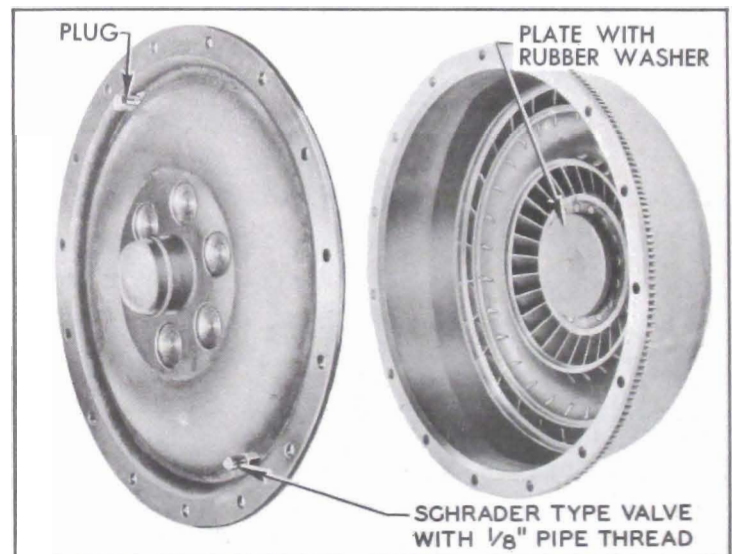

Figure 5-51—Plate and Plugs Installed in Pump and Cover
2. Install plate with washer over inside surface of pump hub (Figure 5-51), then install pump cover with seal and tighten all bolts to 25-30 ft. lbs. torque in sequence shown in Figure 5-107.
3. Install one drain plug, and install a Schrader type valve with $\frac{1}{8}$ " pipe thread in other drain hole. Tighten parts securely. See Figure 5-51.